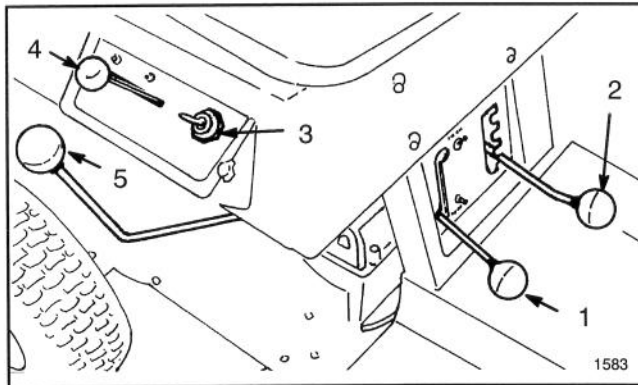

Figure 5
Gear Shift (Fig. 5)—The transmission has five forward speeds, neutral, and reverse. The gear shift lever is located on right side of operator. An interlock switch, which prevents engine from being started when transmission is in gear, is mounted on top of transmission.
Blade Control (Fig. 5)—Blade control engages and disengages the cutter blade. An interlock switch prevents engine from starting when control is in the ENGAGE position. Engine will start when control is in the DISENGAGE position only.
Throttle Control (Fig. 5)—Throttle control connects to and operates carburetor—mounted throttle and choke. Control has three positions: SLOW, FAST and CHOKE.
Height—of—Cut (Fig. 5)—Height—of—cut control varies the cutting height from approx. 1—1/2 to 3—1/2 inches in five increments.
Ignition Switch (Fig. 5)—Switch has three positions: ON, OFF and START.
2. Move gear shift into neutral and blade control into DISENGAGE detent (Fig. 5).
3. Move throttle control to CHOKE position (Fig. 5) when starting a cold engine. However, a hot engine requires no choking. Move throttle to FAST position for starting.
4. Rotate ignition key (Fig. 5) to START position. When engine starts, release the key and move throttle between FAST and SLOW if choke was used for starting. Operate the rider with throttle control in FAST (full throttle) position for best performance.
1. Move blade control into DISENGAGE detent (Fig. 5).
2. Move height-of-cut control (Fig. 5) into desired setting.